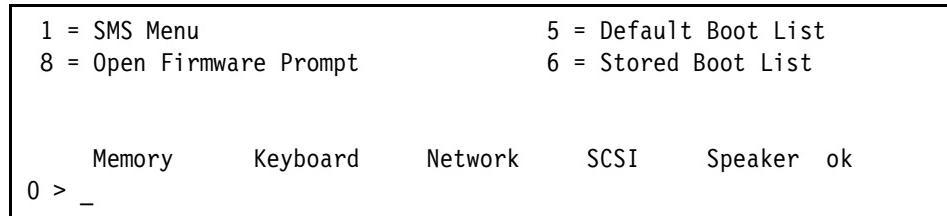

Figure 9-37 Open Firmware prompt
1. Type 8 during the LPAR boot process to go to the Open Firmware prompt, as shown in Figure 9-37.